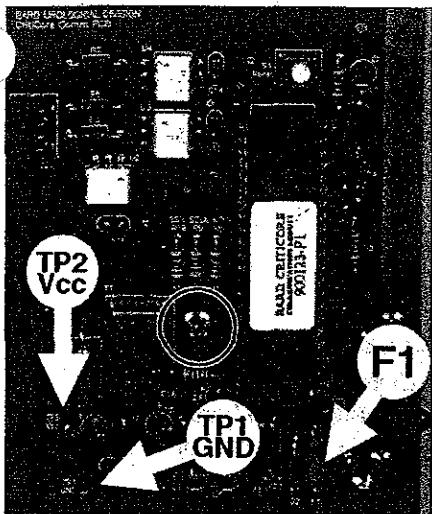

Figure 82
3. Disconnect the CritiCore Monitor and the Communications Module from their respective power supplies. Locate fuse F1 on the Communications Module (see Figure 82) and connect an ohmmeter across F1.